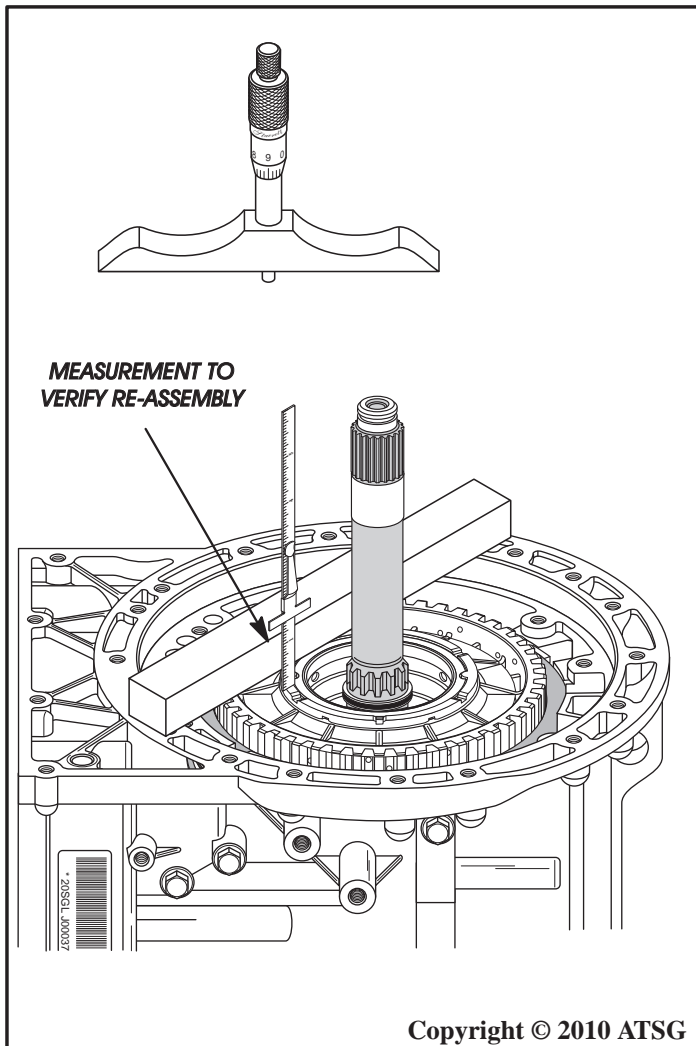

Figure 216
35. Now is the time to compare the measurement you recorded during disassembly, as shown in Figure 216, to measurement that you now have.